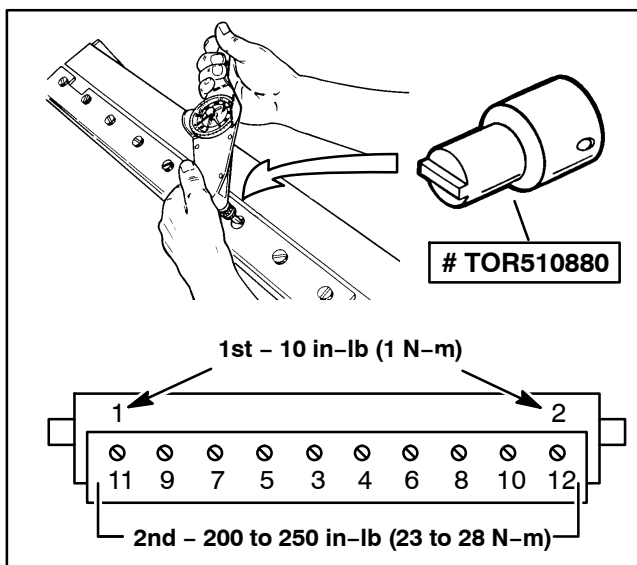

Figure 27
6. Working from the center of the bedknife toward each end (Fig. 27), tighten screws from **200 to 250 in-lb (23 to 28 N-m)**.